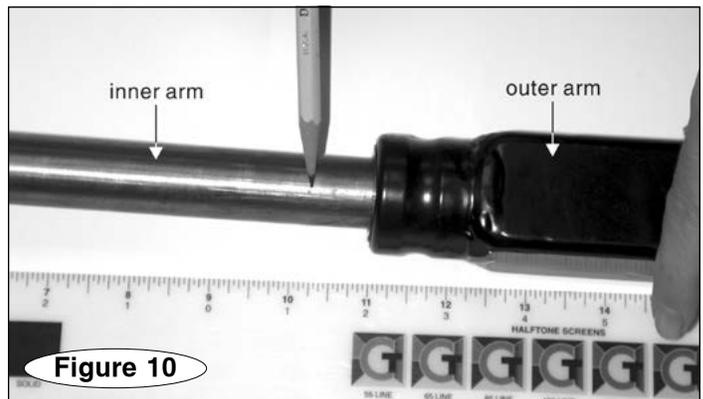

Figure 10
3. With the arms fully extended and locked, draw a straight line with a pencil across the top of the inner arm (Figure 10), 3/4" from the edge of the black outer arm (Figure 10).